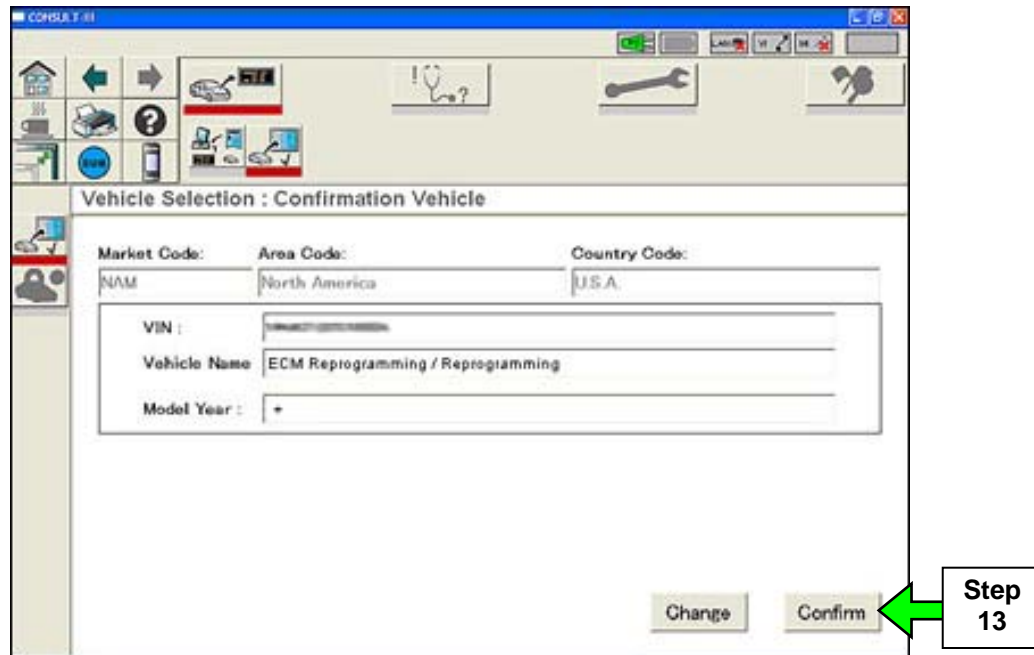

Figure 3
13. Select **Confirm** (see Figure 3).